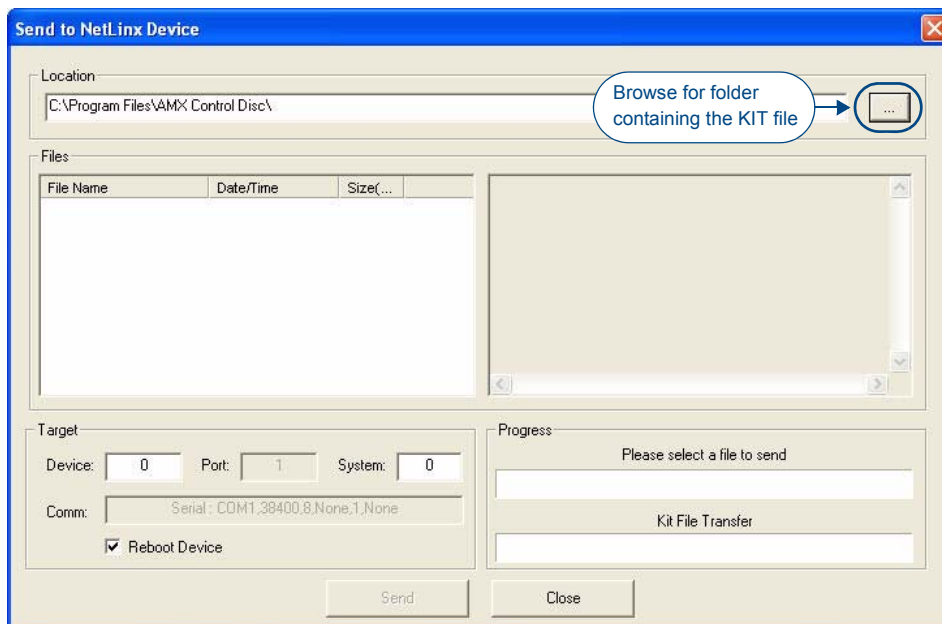

FIG. 29 Send To NetLinX Device dialog (NetLinX Studio)
1. Choose **Tools > Firmware Transfers > Send to NetLinX Device** to open the *Send To NetLinX Device* dialog (FIG. 29).